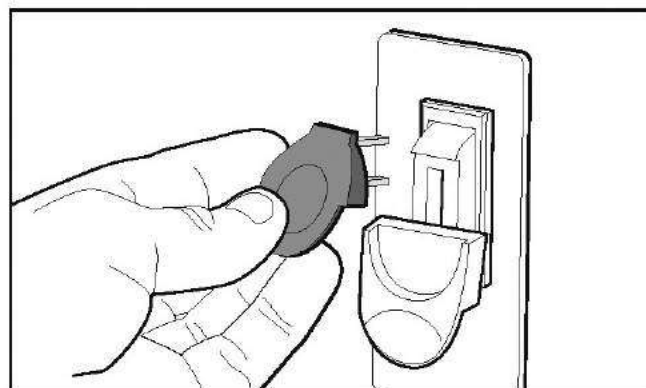

Figure 16. Removing switch key from paddle switch.
4. Remove switch disabling key, as shown in Figure 16.